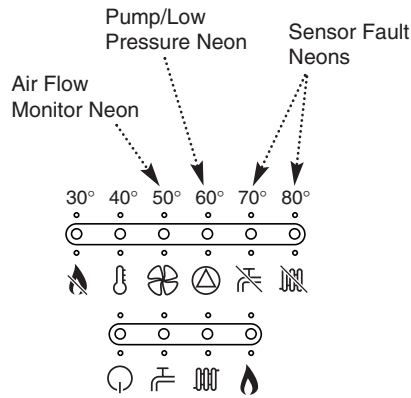

Fig. 12
2. If the neon illuminates (⊕) it indicates that the flue or flue terminal is blocked or obstructed in some way, or that there is an internal fault. If there is no external blockage of the flue terminal that can be easily removed contact your Installer or Service Engineer (Fig. 12).
1. The neon (⊕) will illuminate if the circulating pump is faulty or the system pressure drops below the minimum requirement (Fig. 12).
1. When the (⊕) or (⊕) neon is illuminated a fault on the hot water or central heating temperature sensor is indicated (Fig. 12). Contact your Installer or Service Engineer.